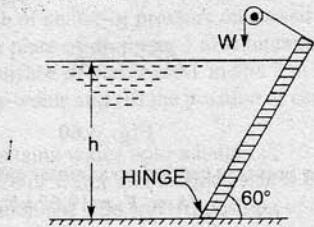

Fig. 3.54
14. A rectangular gate $6 \text{ m} \times 2 \text{ m}$ is hinged at its base and inclined at 60° to the horizontal as shown in Fig. 3.54. To keep the gate in a stable position, a counter weight of 29430 N is attached at the upper end of the gate. Find the depth of water at which the gate begins to fall. Neglect the weight of the gate and also friction at the hinge and pulley. [Ans. 3.43 m]